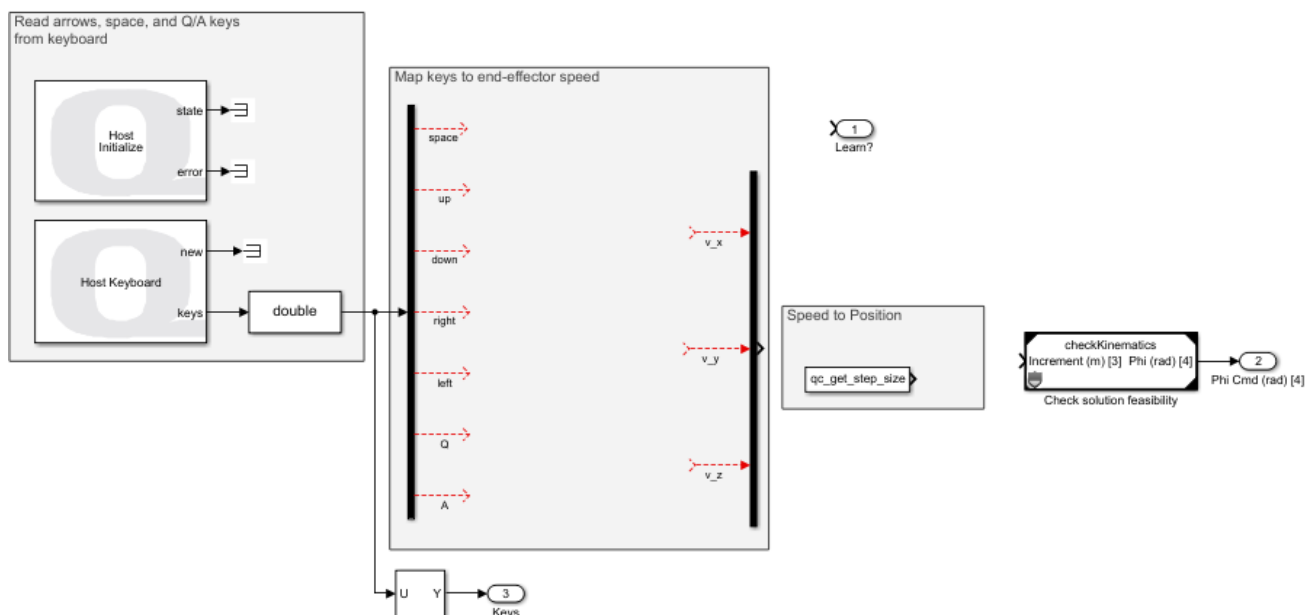

Figure 2: Incomplete Forward Kinematics subsystem.
2. Open the subsystem called *Keyboard I/O*. This subsystem, shown in Figure 2 contains an incomplete section called Map keys to end-effector speed. You will need to connect the keyboard inputs to the corresponding command inputs to the QArm.